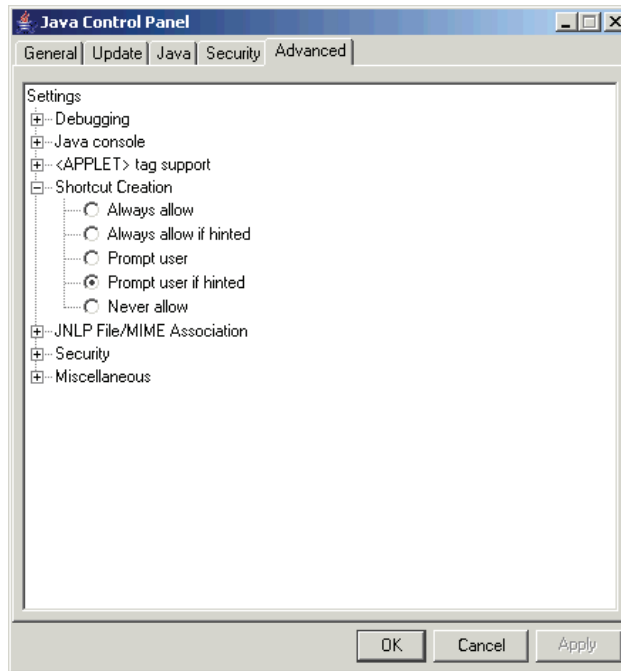

Figure 3-2 Customizing Shortcut Creation
- Click **Configure** to customize shortcut creation using the Java Control Panel, shown in Figure 3-2. Then click **OK** to close the Java Control Panel.